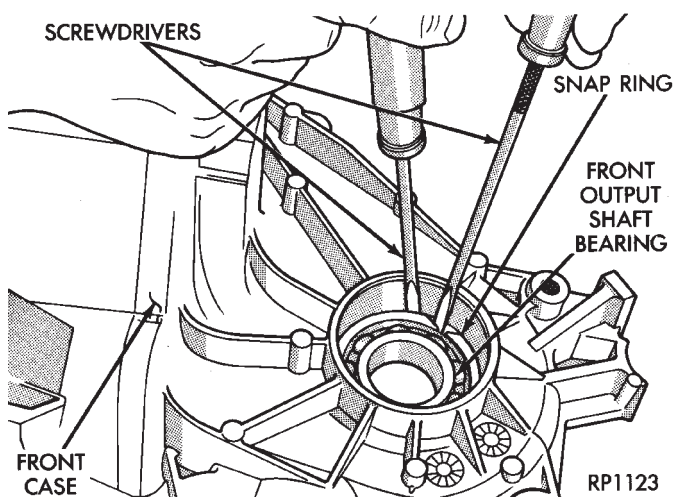

Fig. 30 Removing/Installing Front Output Shaft Bearing Snap Ring
(3) Remove snap ring retaining front output shaft front bearing in case (Fig. 30).
(5) Secure front output shaft bearing in front case with new snap ring (Fig. 30).
(6) Install new front output shaft seal in front case with suitable size socket or installer tool.
(7) If front output shaft rear bearing is to be replaced, install new bearing as follows: